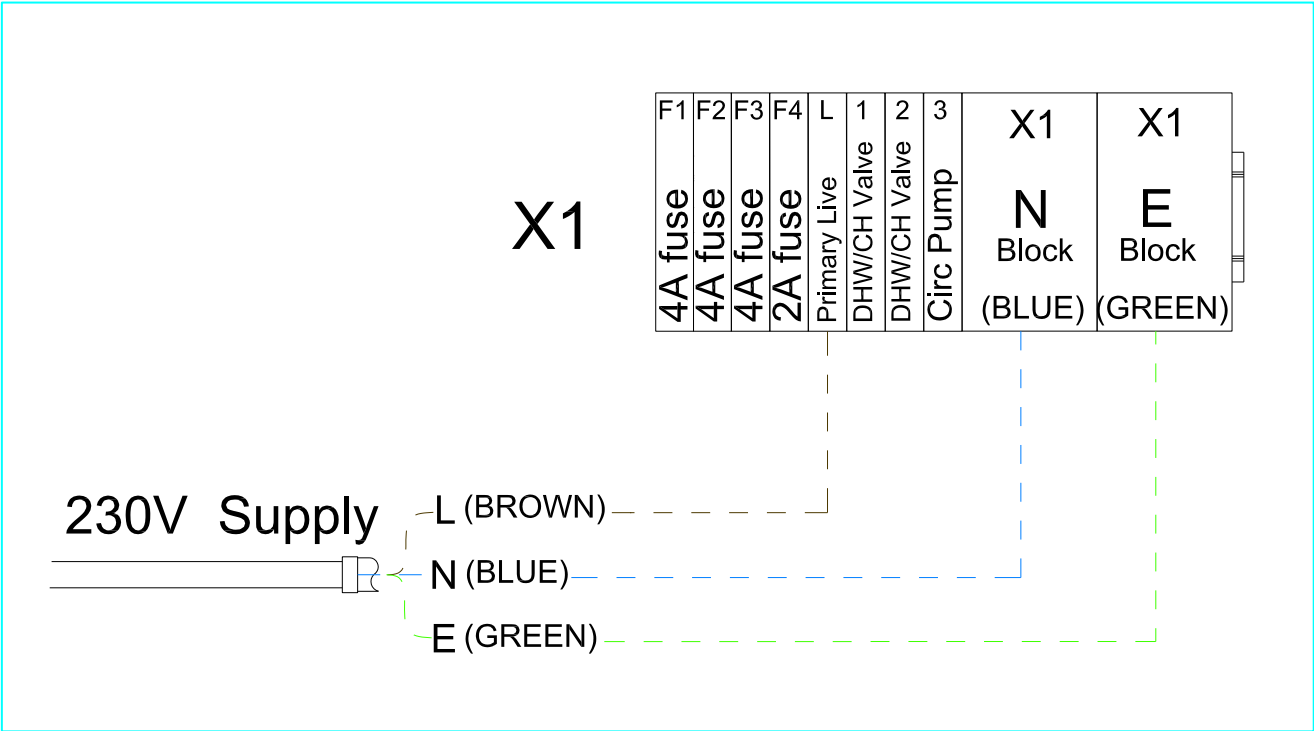

Figure 8: Primary Electrical Connections, Live, Neutral & Earth
- Primary connections, 5.9.1. A three core cable must be connected between the supply isolator and the cylinder connector block. See Figure 8.
In both retro fit and new build installations, a 3 core cable must be taken from the isolator [typically a 16Amp double pole fused spur] and connected to the primary connector block as illustrated in Figure 8.
- Neutral and Earth wires must be connected to the blue and green/yellow connectors respectively, as per Figure 8.